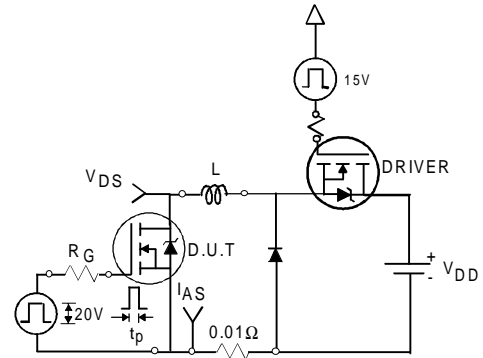

Fig 16c. Unclamped Inductive Test Circuit
- ⑥ Limited by T_{Jmax} , see Fig.16c, 16d, 19, 20 for typical repetitive avalanche performance.